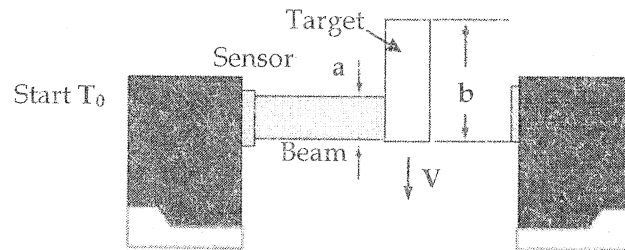

Figure Q2(e): Beam Sensor
- e) Figure Q2 (e) shows a beam sensor which is employed to detect moving targets. The diameter of the sensor beam is 'a' and the length of the target is 'b'. If the target is moving at a velocity of V.